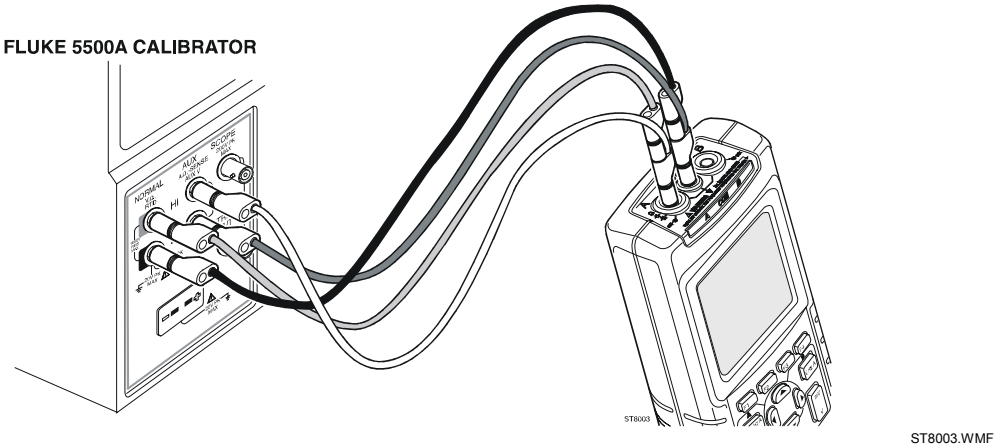

Figure 5-7. Four-wire Ohms calibration connections
2. Connect the UUT to the 5500A as shown in Figure 5-7.